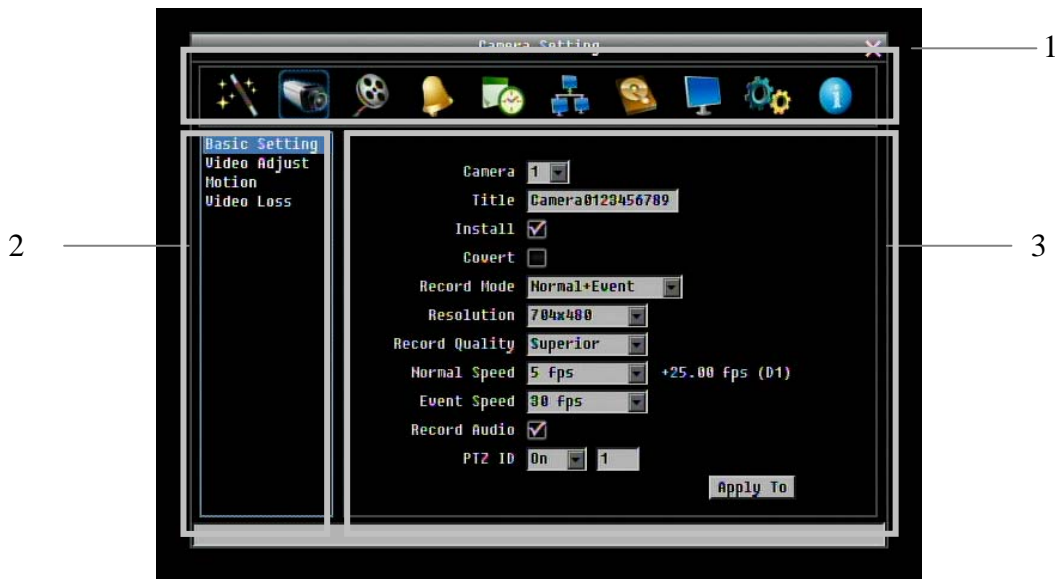

Figure 2-3 OSD Menu
**NOTE:** If the require password option is active, you will need to log in first. Refer to “Section 3.2 LOGIN” for information on logging in. The menu (shown in Figure 2-3 OSD Menu ) is divided into 3 main sections.